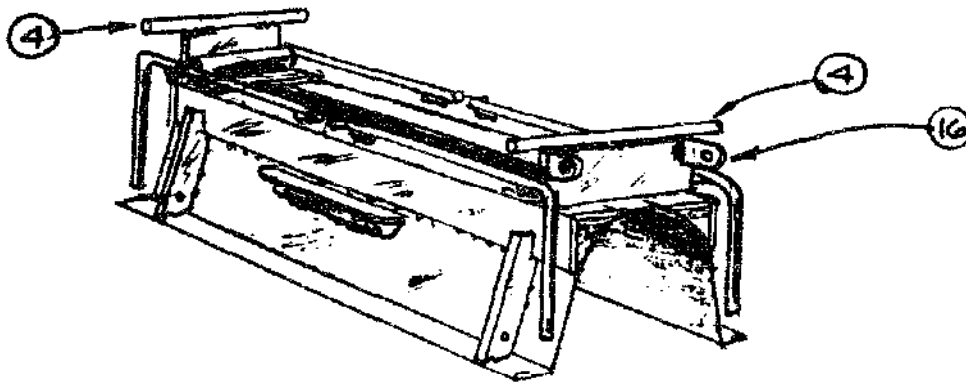

FIGURE 13 WELD ON HINGE PIECES (16) ON BOTH ENDS USING DOORS (6) AS GUIDES. ALSO WELD ON TWO RODS (4).
4. Mild steel rods, 10mm x 15.2cm (3/8" x 6") (see Figure 13). Two are needed. These are welded in place to make the form stand a little taller so the levers will not touch the work bench while the mortar is being tamped into the form. They also provide a wider base.
16. Steel bar, 19mm x 2.5cm x 6mm (3/4" x 1" x 1/4") (see Figure 13). Four are needed. Bore 6mm (1/4") hole for the hinge rod as shown. No. 15 pivots in these holes to make hinges for the doors. Parts No. 16 are welded to part No. 3 in such position **as to** be as far to the outside edge of the door as possible. **It** is best to make a trial positioning of the door and parts No. 15 and 16 by tack welding No. 16 lightly before welding it permanently. Then it is possible to make sure that the door is going to be in such place that the pipe will have its proper position.